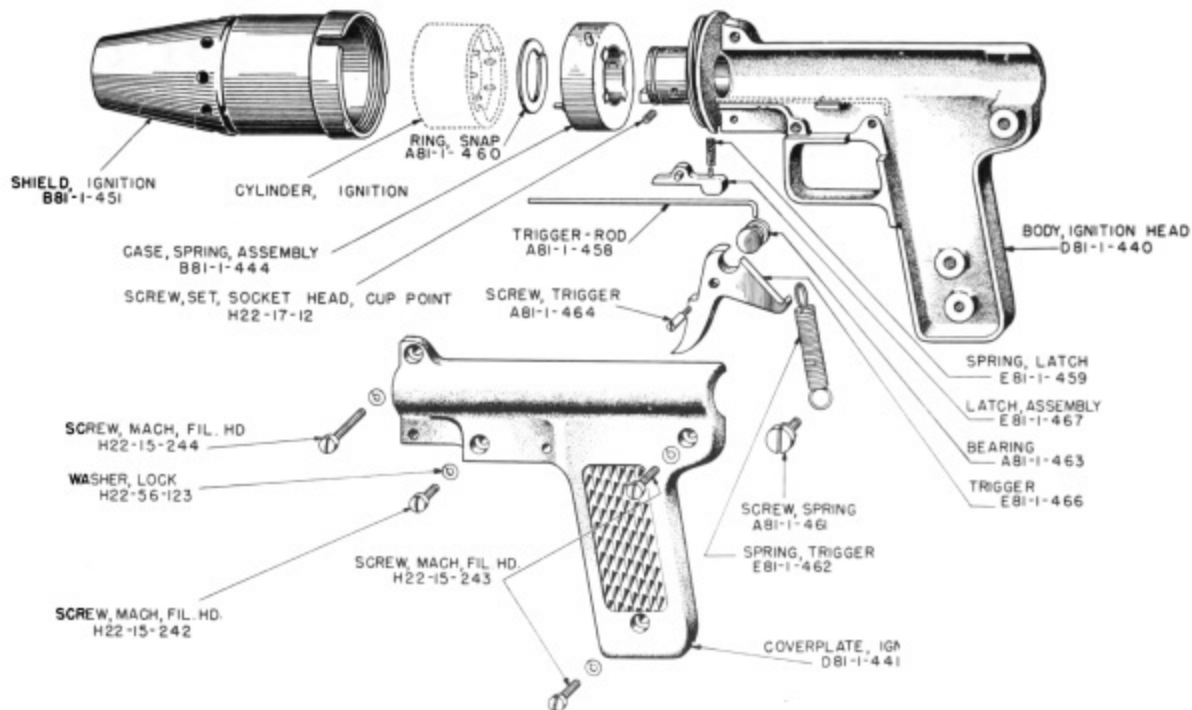

Fig 55. Ignition head disassembled, showing nomenclature and Chemical Warfare Service stock numbers for requisitioning spare parts.
(1) Damaged parts. Replace worn or damaged parts. If the diaphragm shows evidence of tears or separation, or if leaks occur at the diaphragm, replace the valve-diaphragm assembly.
(2) Valve spring. If valve spring has lost resiliency, grasp it by the ends and stretch slightly, or replace.
(3) Nozzle leaks. If valve leaks at nozzle, and cleaning (Par 55 d) does not remedy the leak, adjust needle (see d above). If leak persists, either replace barrel and needle, or lap seat. To lap, place lapping compound on seat (in nozzle) and on needle point. Turn needle in seat until parts make a tight connection when seated. Remove lapping compound, reassemble, adjust needle, and test fire.
(4) Atomizer hole. If atomizer hole is clogged, clean with fine wire. (Par 52 i)
a. Description and functioning. (Fig 55) The ignition head ignites the fuel when the flame thrower is fired. It is mounted on the fore part of the barrel. It consists of:
(1) Ignition-head body, which includes half of the front grip. Three set screws serve to tighten the ignition-head body to the barrel. The ignition-head body is made of aluminum.
(2) Trigger and trigger bearing, held between the ignition-head body and the coverplate by the trigger screw.
(3) Trigger rod, one end of which is held in the trigger bearing, the other extending through the ignition-head body. Pulling the trigger shoves the trigger rod forward, causing it to push a match in the ignition cylinder. The match ignites an incendiary charge in the ignition cylinder.
(4) Trigger spring, which hooks over a projection of the trigger and is held at its lower end by a screw, which is held in the ignition-head body. This spring pulls the trigger rod back from the firing position after the firer releases the trigger.
(5) Latch, located in the ignition-head body, in front of and above the trigger guard. The latch, set on a pin, engages the notch of the ignition